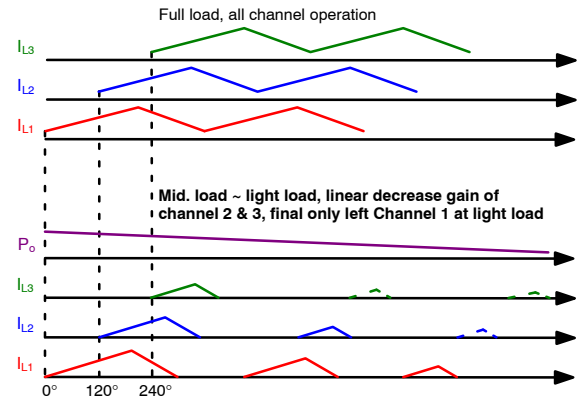

Figure 13. Phase and Gain Change of CM Control
Table 2 explains the phase and gain change of each channel when the PFC operates at various loads. The loading decreases the gain to the slave until it is disabled. The phase of Channel Management (CM) mode doesn't change when channel 3 is disabled. The behavior shown in Figure 13.